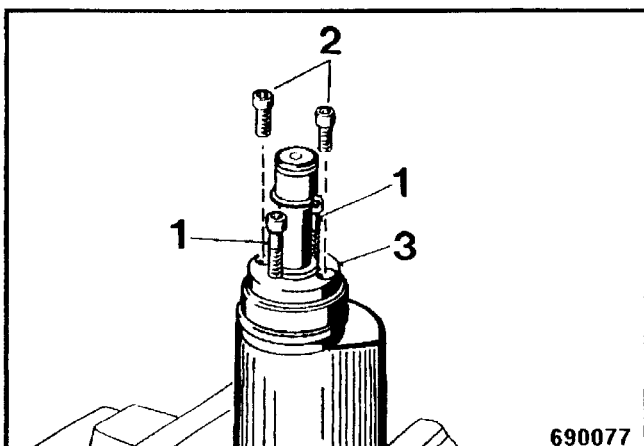

Fig. 19
- Unscrew the mounting screws 2 (Fig. 19).
- Screw two forcing screws (1) into the forcing bores.
- Force the control sleeve (3) out of the exciter shaft.